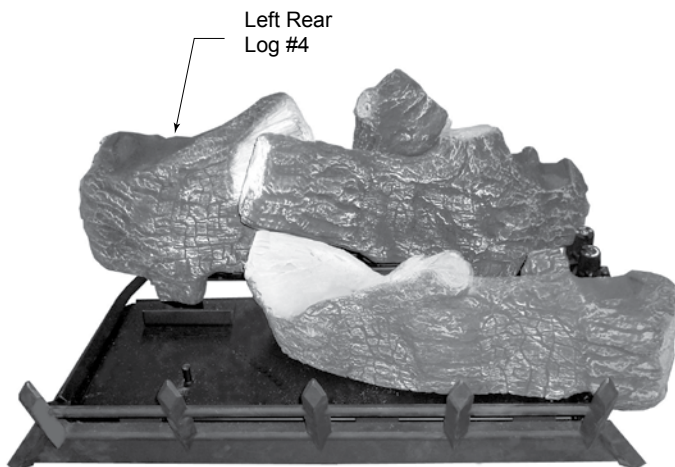

Figure 6.6 - Log #4 Placement
- Place left rear log (#4) on pin located on rear support bracket on left side. See Figure 6.6.